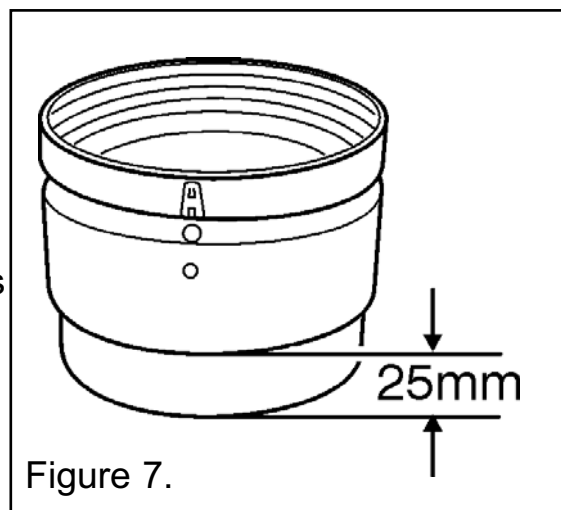

Figure 7.
- The spigot is designed to be compatible with a selkirk 4 SIL - DH draft hood connector. The inner sleeve will require reducing in length so that it protrudes 25mm below the outer sleeve (See figure 7).